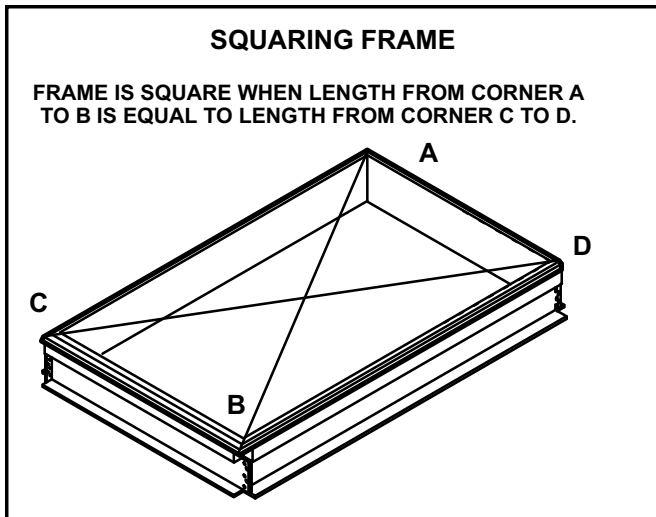

FIGURE 3
- 1- With frame situated level in desired location on roof trusses, tack weld (1) corner of frame.
- 2- Measure frame diagonally from corner to corner as shown in figure 3. These dimensions must be equal for frame to be square.